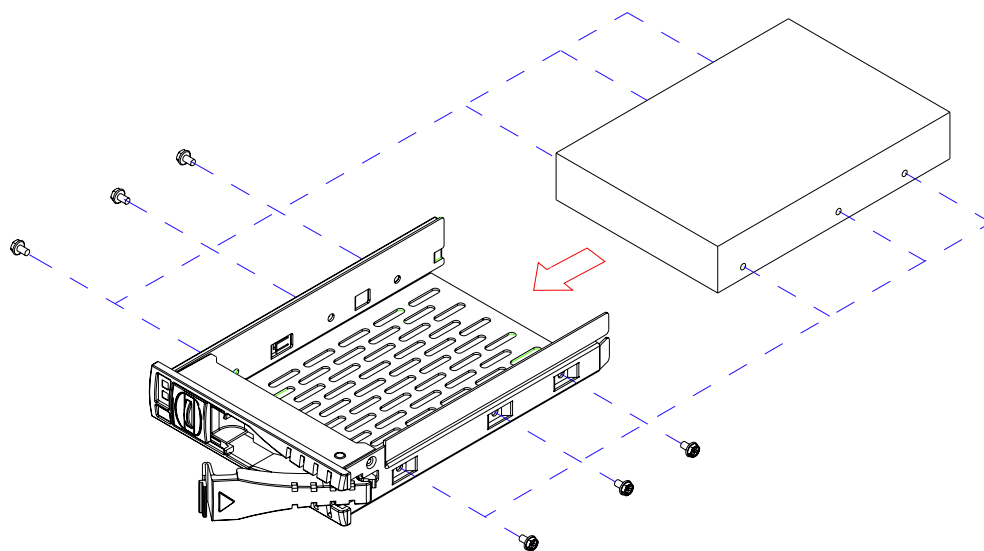

Figure 2.11 Installing a SATA HDD
4. Fix a 3.5" SATA HDD to the proper location in the tray by fastening the screws provided. (See Figure 2.11)